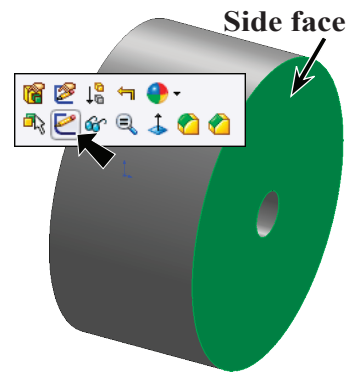

Fig. 6
Step 10. Click Zoom to Fit  (F) on the View toolbar.
Step 1. Click the **side face** and click **Sketch**  on the Content menu, **Fig. 6**.